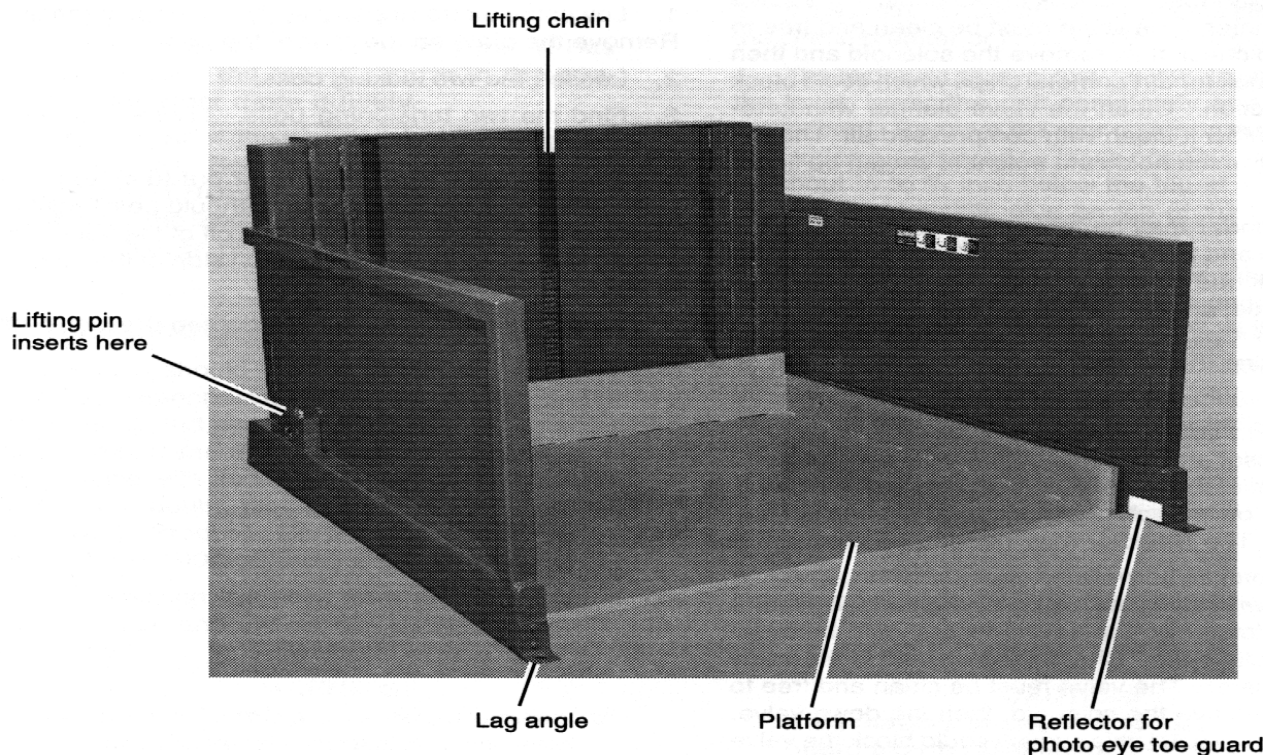

Fig. 7 Parts identification - Front view
- Do not work under the lift platform without installing the safety pins. (See Fig. 7 and the section on "Maintenance.")
This unit includes a photo eye toe guard. See Fig. 7. If something blocks the light beam, the unit will stop quickly. The control system will stop the motor and close the down valve, preventing the platform of the unit from moving down. This is designed to prevent the unit from lowering onto the operator's toes. If this safety system is not working correctly, do not operate the unit. Call a maintenance worker right away.
- **You should not have to do any maintenance work with the platform raised. All normal maintenance can be done with the platform lowered. However, if you ever need to work under the platform, you must be careful to do this safely. Raise the platform until you can insert the safety pins on each side. The pins are shown in Fig. 7. Finally, unplug the**